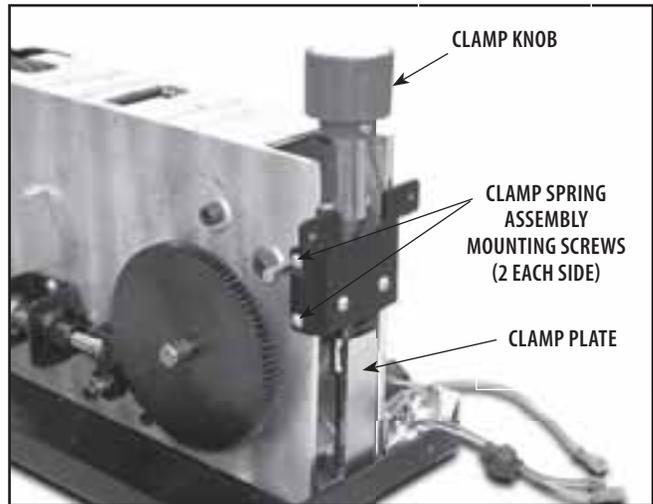

FIGURE 6.28
5. Turn the Clamp Knob Counterclockwise until it is completely disengaged from the Clamp Plate. See Figure 6.28.